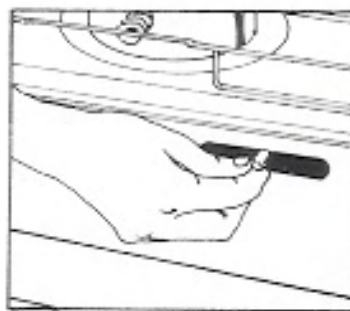

Fig. 7
- (3) Move ignition lever gently to right till it stops and hold until wick is lit. (Fig. 7) Return the ignition lever after ignition. In case ignition is not obtained and white smoke goes up near ignition heater, set the ignition lever again.